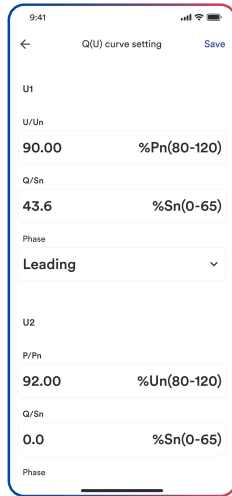

Figure 26. Q-U curve adjustment
Cos (P) curve settings is as shown in Figure 26: